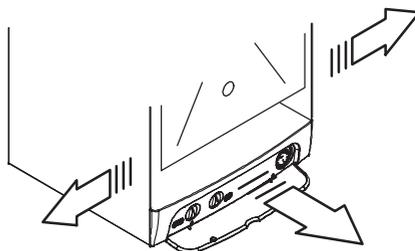

Fig. 6.11
- Remove the side panels or move the lower part of the side panels as indicated in Fig. 6.11 and pull the control panel. When completely pulled out, the panel can rotate 45° downwards to facilitate the operations on